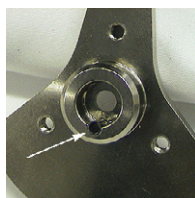

Figure 5 - Endplate w/Spring Pin Pressed in EndPlate- back view
9. Push the spring pin into the z-shaft end plate from the front until it is flush to the back of the end plate (see figure 5).